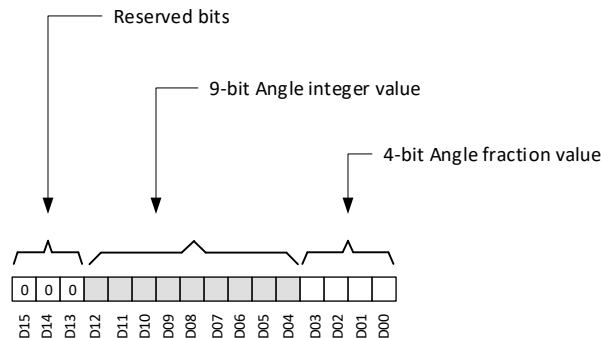

Figure 7-8. Angle Data Definition
The TMAG5170 calculates the angle based off the ANGLE_EN register bit settings. Figure 7-8 shows that the ANGLE_RESULT register stores the angle information in the 13-LSB bits. Bits D04-D12 store angle integer value from 0 to 360 degree. Bits D00-D03 store fractional angle value with a resolution of 1/16 degree. The 3-MSB bits are always populated as b000. The TMAG5170 CORDIC offers angle resolution of 1/4 degree. An external CORDIC may be used if higher angle resolution is required. Use Equation 7 to calculate the angle.
- D_i is the data bit as shown in Figure 7-8.